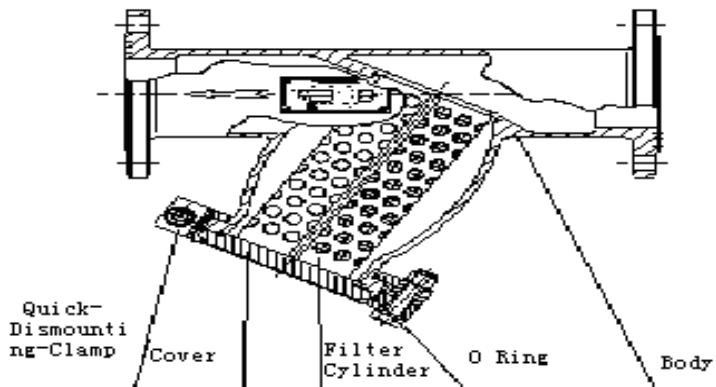

Figure 1b Tilting-Clamping-Quick-Dismounting –Filter
(2)Tilting-Clamping-Quick-Dismounting –Filter and Upright-Barrel-Clamping-Quick-Dismounting-Filter: two Semi-Circles-Clamping in structure for sealing. Please see Figure 1b & 1c below .